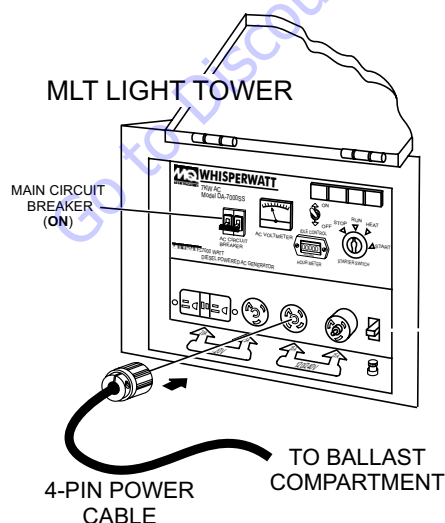

Figure 14. Main, GFCI Circuit Breakers (ON/MLT)
4. Once, the engine has started, place the main circuit breaker switch (Figure 14) on the MLT front control panel in the **ON** position.